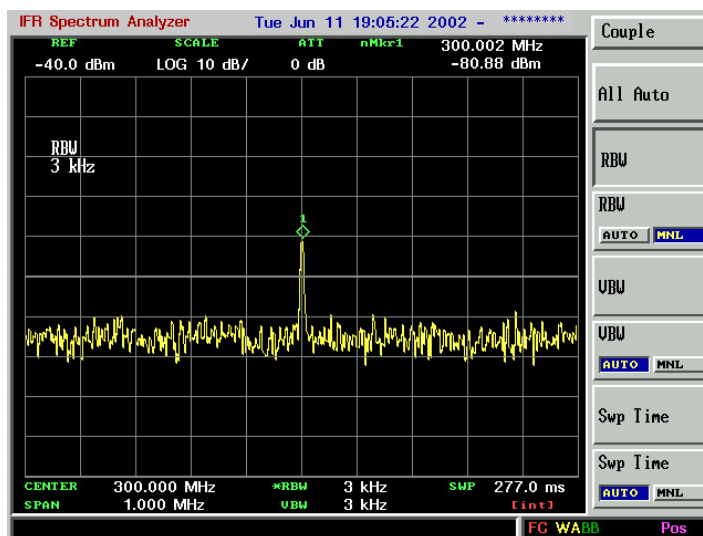

Figure 2-14. Decreasing Resolution Bandwidth
6. Press **CPL**, **RBW [MNL]**, **RBW**, and the step-down key (**▼**) to decrease RBW. The low level signal appears more clearly because the noise level is reduced. See Figure 2-14.